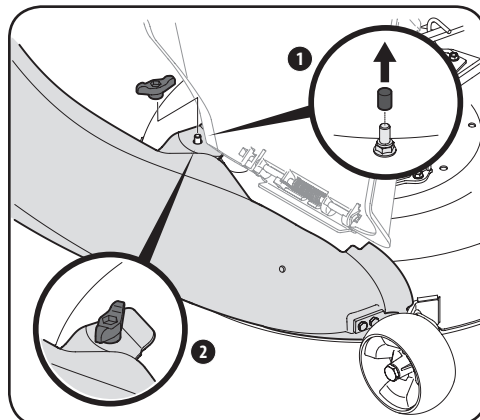

Figure 4-19
- Secure the chute elbow to the deck using a wing knob (720-04122) from hardware pack 689-00312. See Figure 4-19.
**NOTE:** If present, remove the protective cap off of the mounting stud on the mowing deck as shown in the upper inset of Figure 4-19.